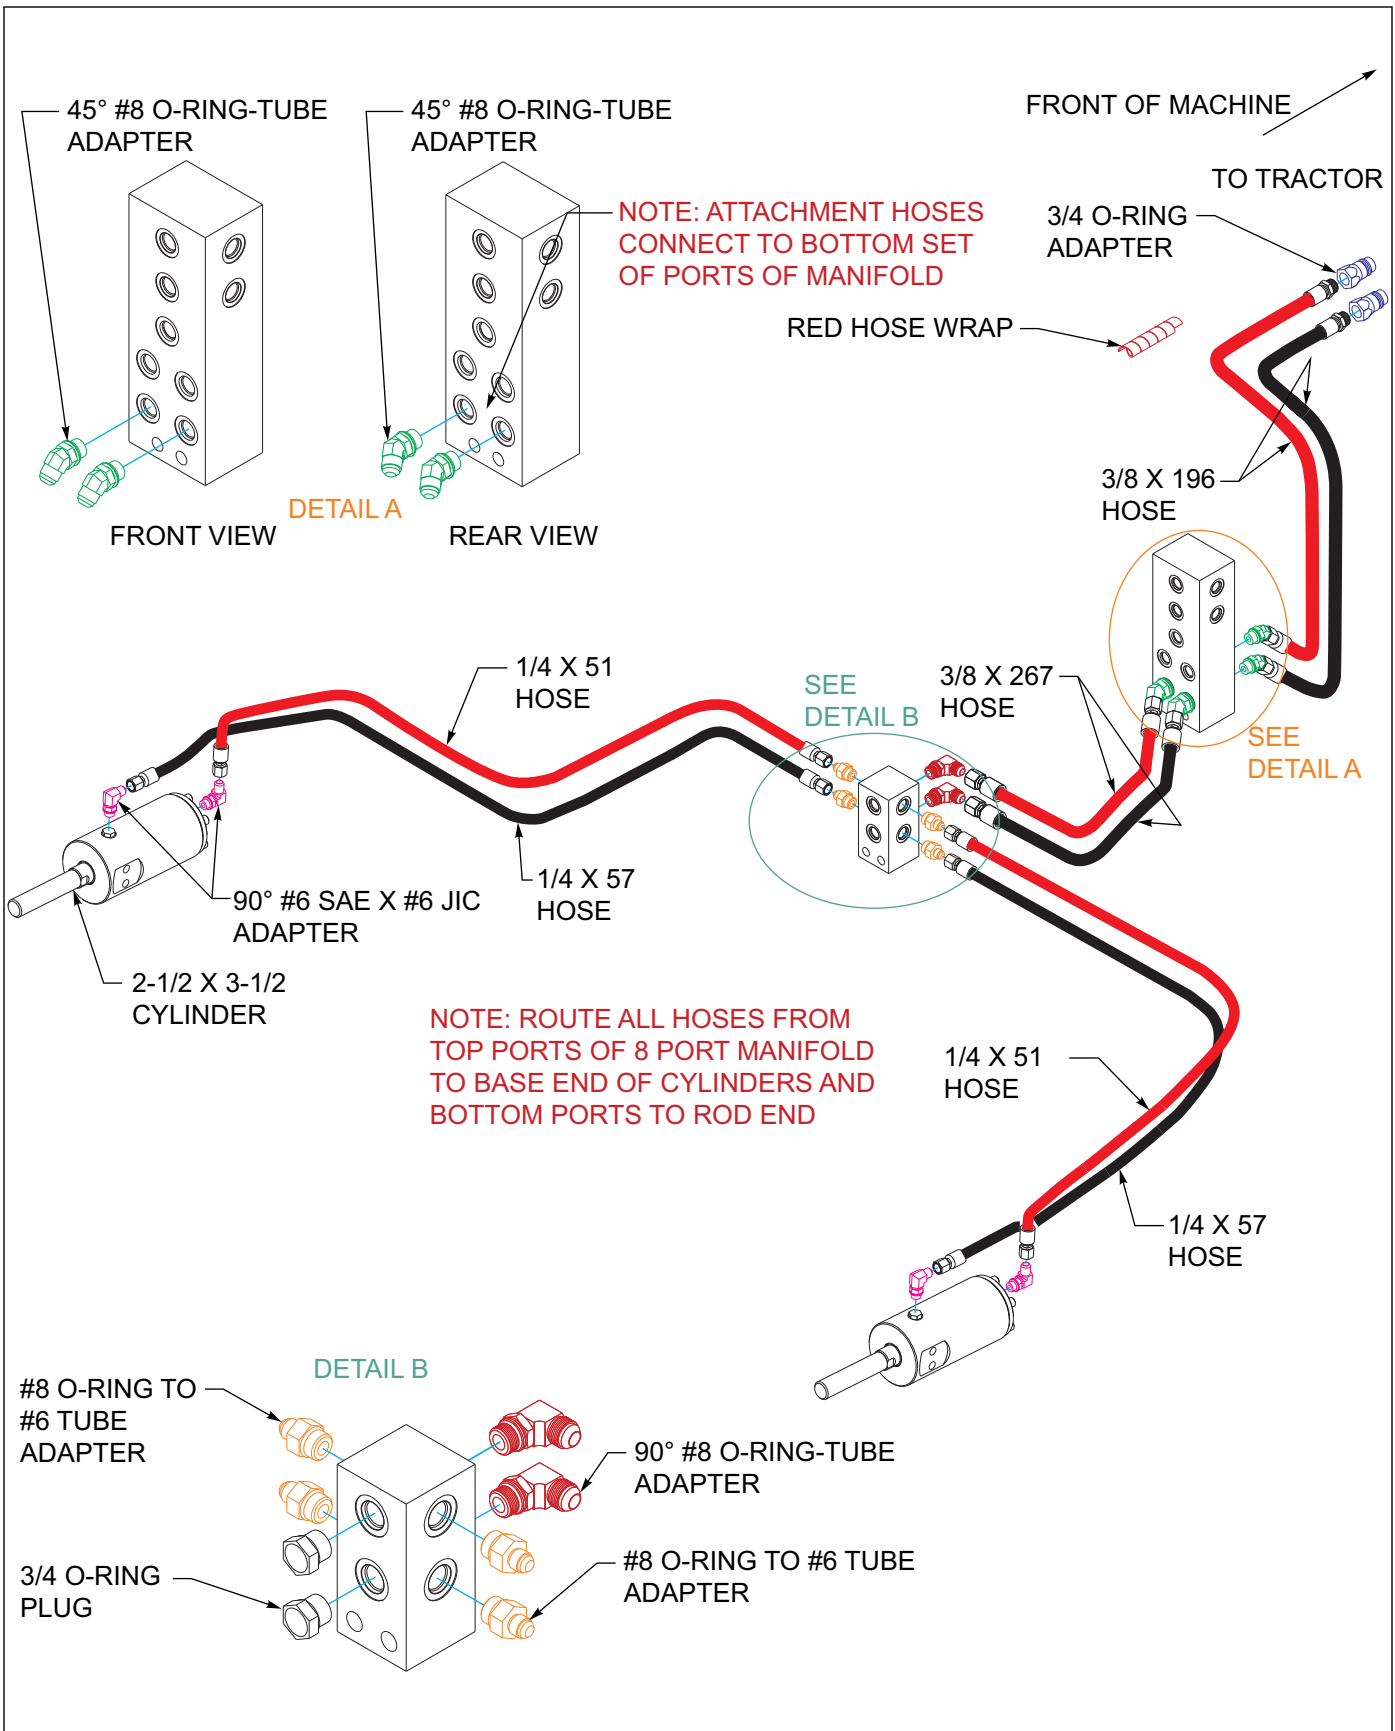
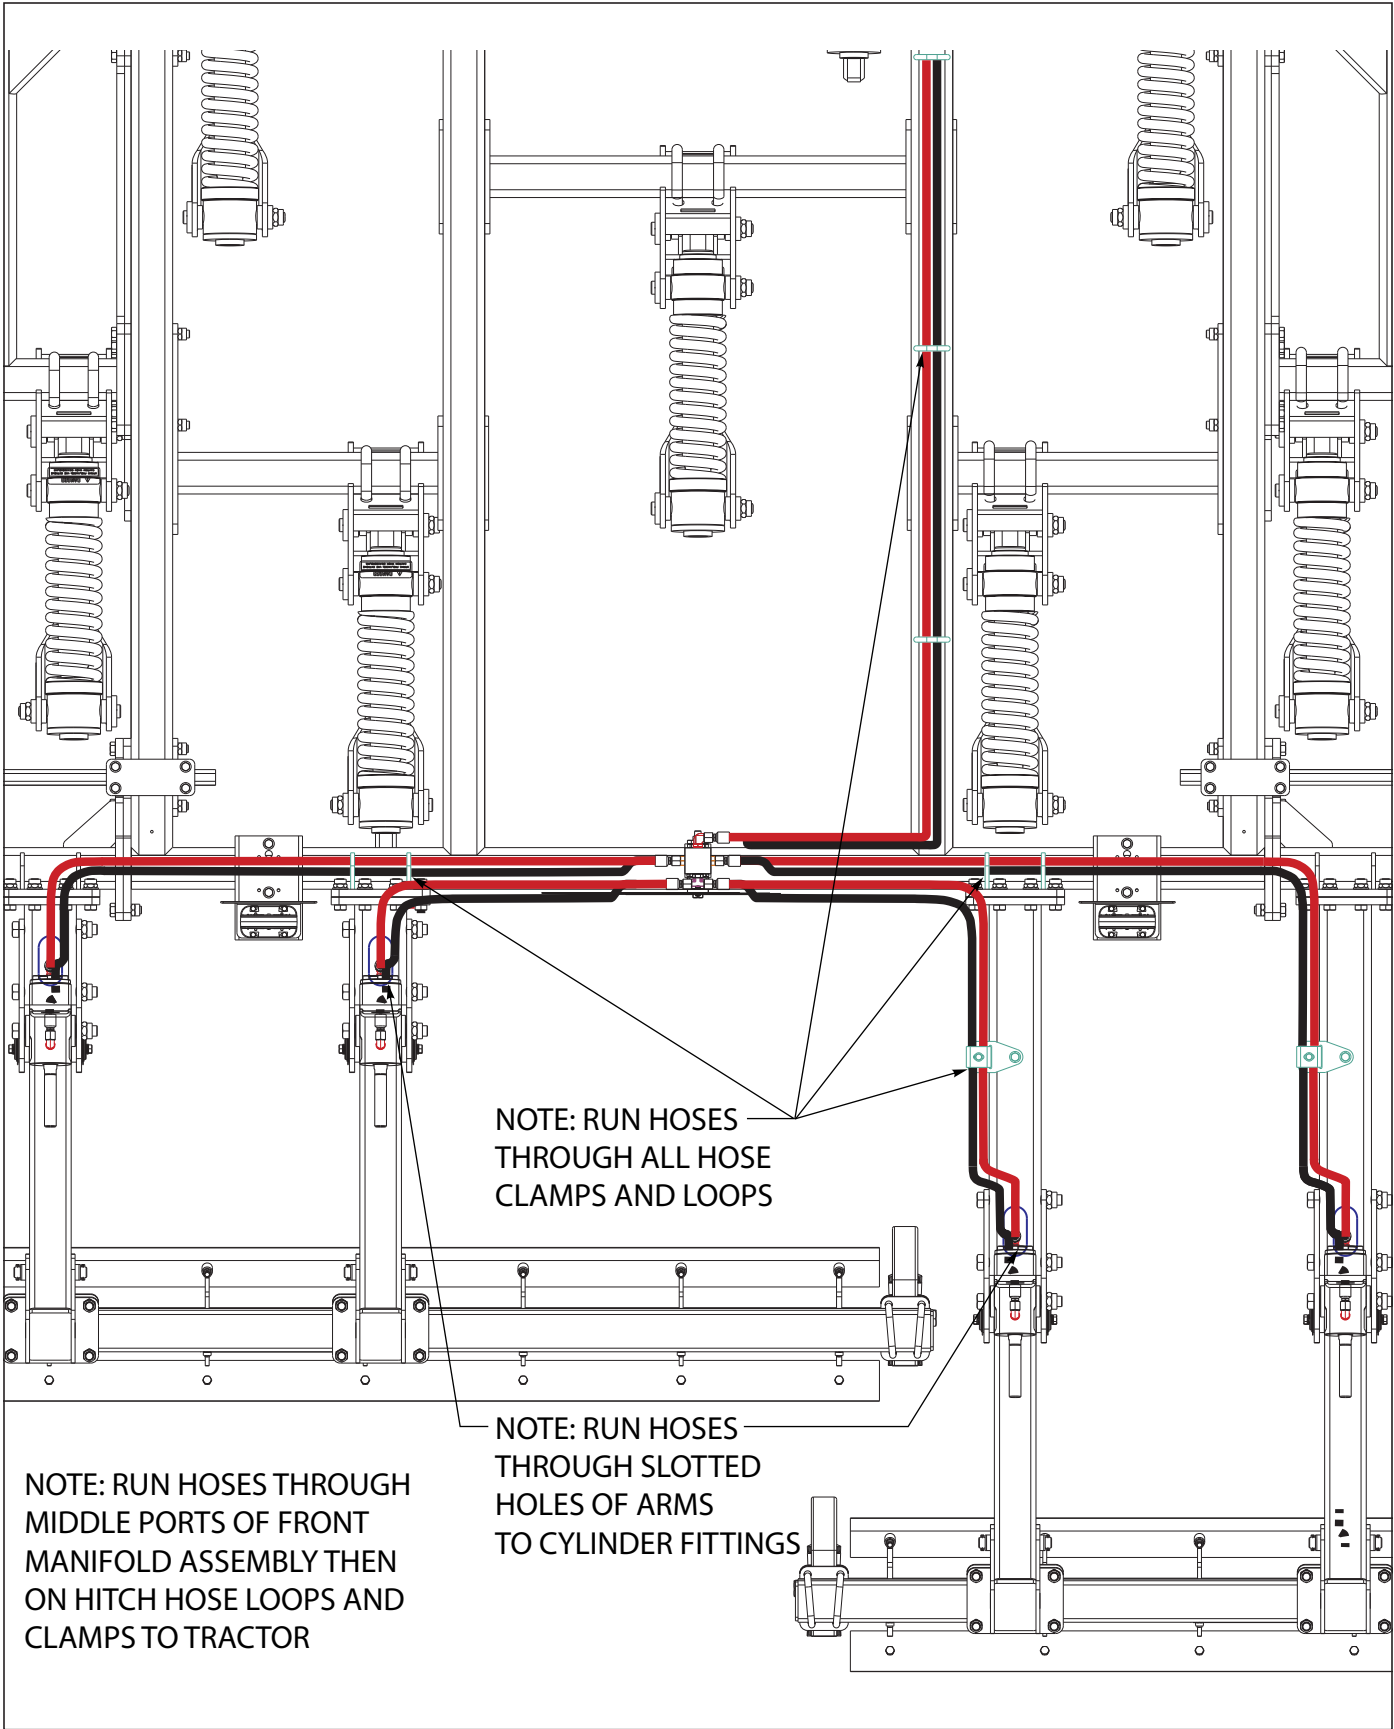

Figure 3-30: Chopper Hydraulic Installation 2112-09
Figure 3-33: Chopper Hydraulic Layout 2112-11-13-15
7. On hydraulic Chopper Reel option, See Figures 3-30 through See Figures 3-33 for proper hydraulic installation.